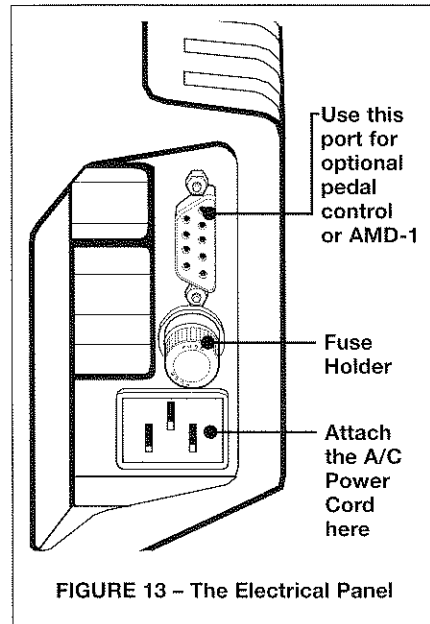

FIGURE 13 – The Electrical Panel
2. Attach the female end of the power cord to the dispenser connector. *See Figure 13.*